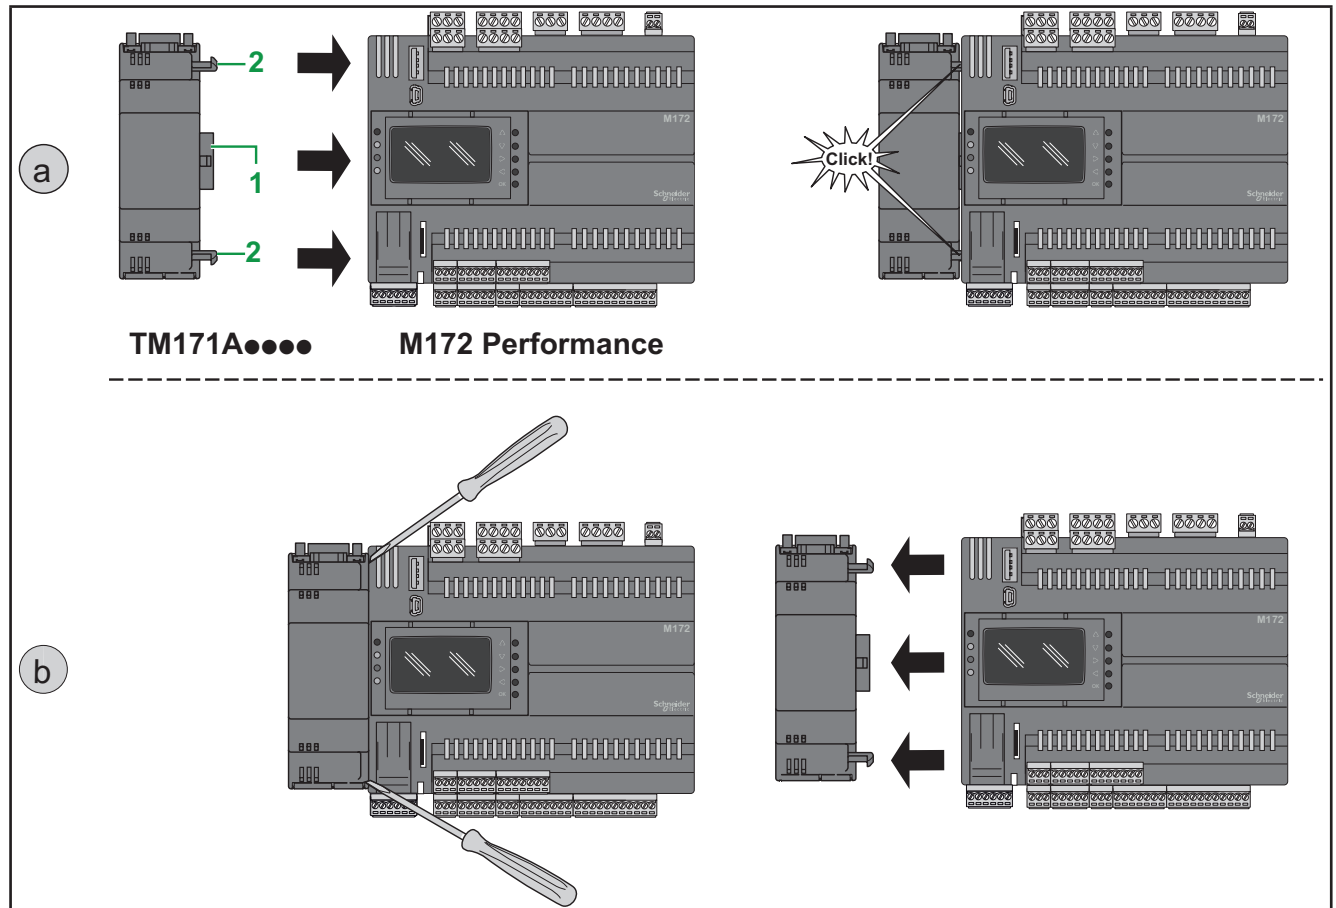

Fig. 10. Assembling (a) / Removing (b) the TM171A●●●● Communication Modules
TM171A●●●● Communication Modules are 2DIN modules that can be connected to an **M172 Performance** controller (see Fig. 10 on page 25) to increase the number and/or type of communication ports.
1. via the Communication Module connector (see 1 in Fig. 10 on page 25),
2. with the two fixing hooks (see 2 in Fig. 10 on page 25) to which the Communication Module is anchored.